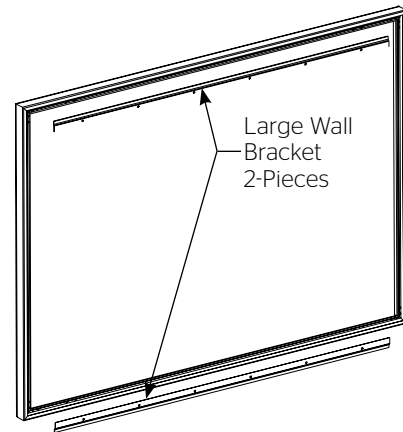

Figure 5
1. Secure the large wall bracket to wall studs at the desired height. Make sure the large bracket is level. The top of the frame will be $\frac{1}{8}$ " above the top of the large wall bracket when mounted. You will need at least $\frac{5}{8}$ " clearance above the bracket to hang the screen. Figures 5 and 6 show the proper orientation for the supplied wall brackets.